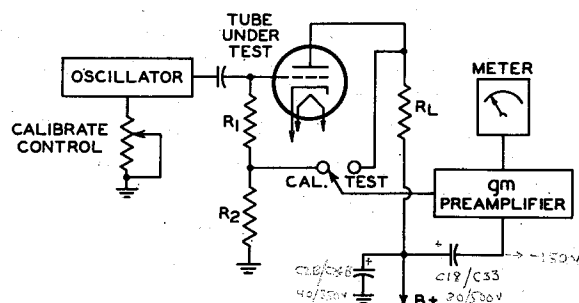
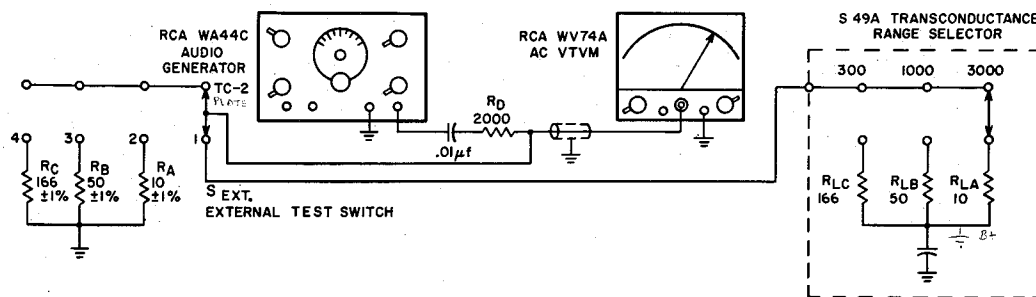

Figure 6. Simplified diagram of transconductance calibrating and measuring circuits
Figure 7. Test setup for determining the plate load resistance.
Figure 6 shows a simplified schematic of the transconductance measuring and calibrating circuits. These circuits include the tube under test, oscillator, precision voltage-divider network, a plate load resistor, and the gm preamplifier and meter.
Equipment required for recalibration includes an ac voltmeter, such as the RCA WV-74A or equivalent; an audio frequency generator capable of generating an undistorted sinewave signal of approximately 45 kcs, such as the RCA WA-44C or equivalent; the following resistors with values of: 10 ohms ( $R_A$ ), 50 ohms ( $R_B$ ), 166 ohms ( $R_C$ ), 323 ohms, and 950 ohms, each having a tolerance of  $\pm 1\%$  and a  $\frac{1}{2}$ -watt dissipation; a 2200-ohm  $\pm 10\%$   $\frac{1}{2}$ -watt resistor ( $R_D$ ); and a 4-position single-circuit switch ( $S_{Ext}$ ). The test switch must be of high quality and have a very low contact resistance. The 2200-ohm series resistor ( $R_D$ ) reduces the shunting effect of the externally connected audio generator to a negligible value. Note, the following calibration procedures do not require a tube under test. Before proceeding with the calibration construct the test circuit as shown in Fig. 7.
To properly calibrate the transconductance (gm) measurement circuit of the WT-100A it will be necessary to disconnect the reactive component (L68), which is in parallel with the plate load resistors; thus for test purposes the plate load ( $R_L$ ) is purely resistive. A simplified diagram of this circuit is shown in Fig. 6. The test setup for measurement of  $R_L$  is shown schematically in Fig. 7. The plate load is one of three values of resistance ( $R_{LA}$ ,  $R_{LB}$ ,  $R_{LC}$ ) in the gm measurement circuit and is selected by the TRANSDUCTANCE RANGE SELECTOR switch on the WT-100A instrument panel. The effective resistance of these plate load resistors may be determined as follows:
3. Set the external test switch to position No. 1 as shown in Fig. 7 and the TRANSDUCTANCE RANGE SELECTOR switch to the 3000-micromho range. Set the WV-74A (ac voltmeter) for 0.03 volts full scale and the audio generator to provide a fre-